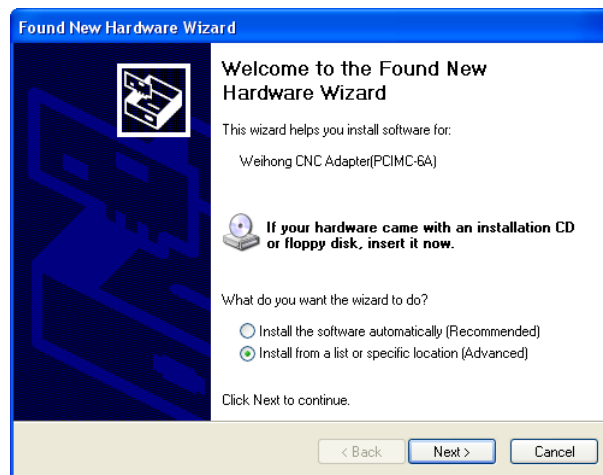

Fig. 2-1 Hardware update wizard
- 1) Right click “My Computer”, select “Properties”, and then click “Device Manager”. Choose the “CNC Adaptor” item, right click on it and select “Update Driver Software...” Users can begin updating process according to the wizard. A dialog box as Fig. 2-1 will pop up.